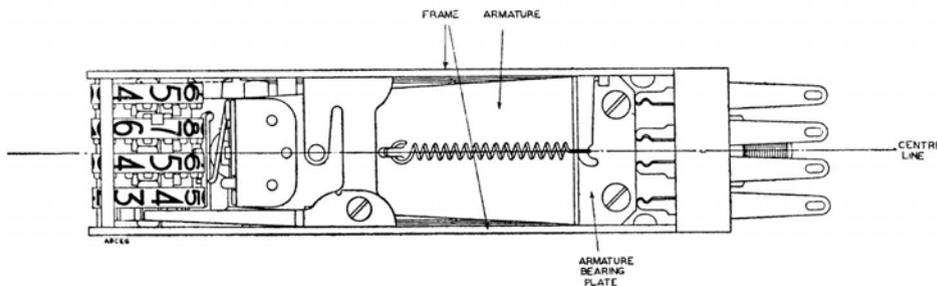
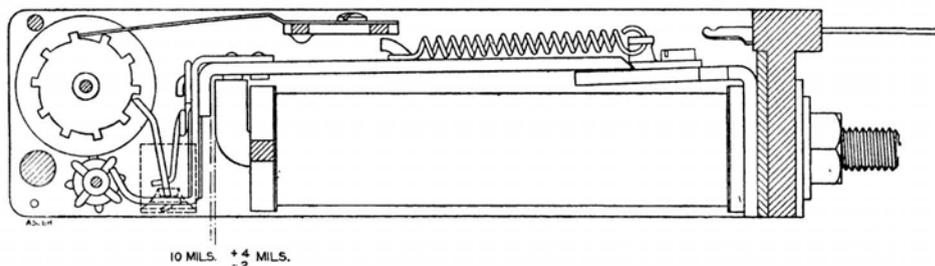

FIG. 4.—ARMATURE PARALLEL TO FRAME
FIG. 5.—ARMATURE CLEARANCE
**6. Armature.**—Adjust the armature so that its centre line is parallel with the frame (Fig. 4) and a clearance of 10 (+ 4 or -2) mils exists between the armature and the core with the armature (as shown in Fig. 5) operated manually. It will be found convenient when making this adjustment to insert a gauge of 10 mils between the armature and the core and to press the armature gently against the face of the gauge until it is felt to bed solidly ; then securely tighten the fixing screws. (Verify that the operating